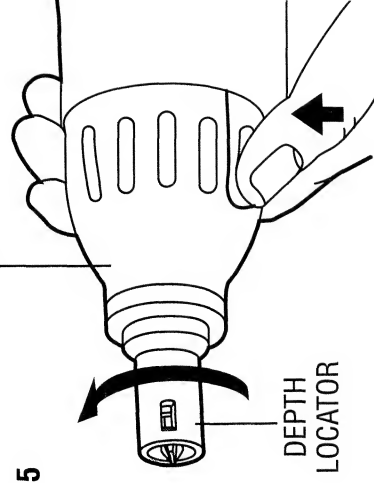

Figure 5
1. Rotate adjustment collar (Figure 5). Clockwise rotation will provide deeper seating of screws.